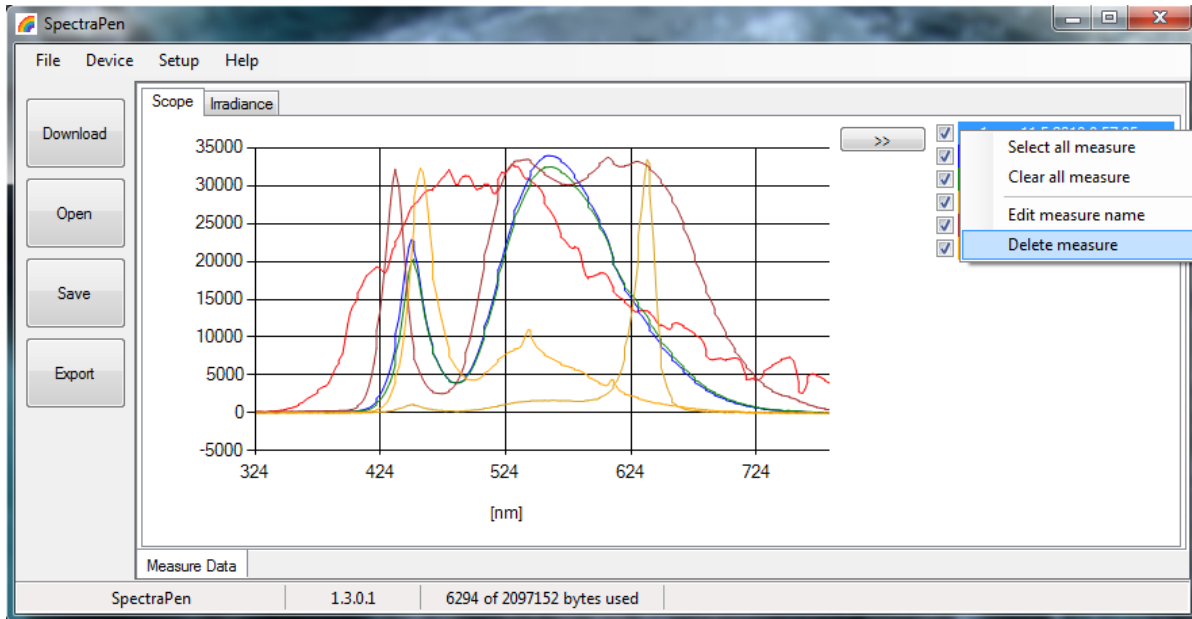

Fig. 30 Options for list of data.
7. Right click on list of measured data enables edit data name, delete selected measurement or show and hide all measured data in the graph– Select all measure and clear all measure (Fig. 30).